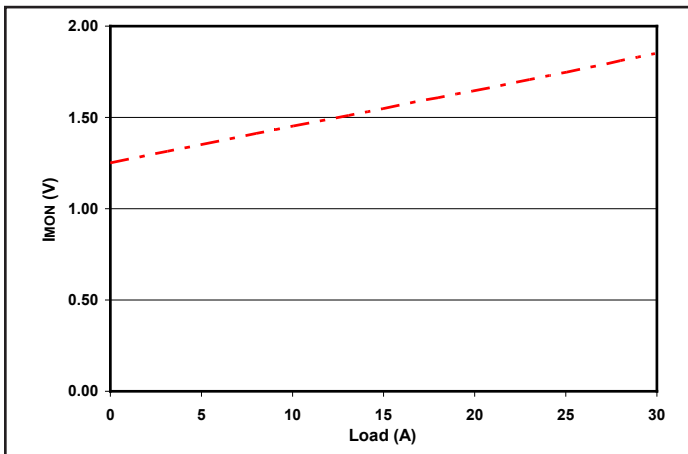

Figure 9: Imon pin voltage vs. load current at 24V input and 13.8V output. Load capacitance: 100µF electrolytic cap. C option only.
**Current monitor:** The  $I_{mon}$  pin voltage tracks the output current, as shown in figure 9. Zero load current is 1.25V and maximum rated load current is 1.83V. This pin has a 49.9 Ohm output impedance.